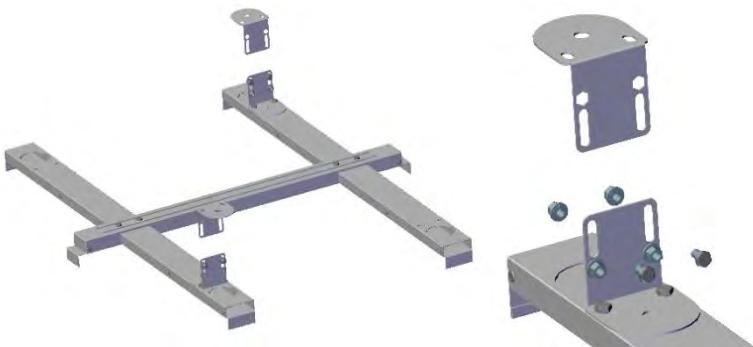

Fig. 50: Foot mounts
6. Unfasten the upper bracket on both foot mounts (Fig. 50).